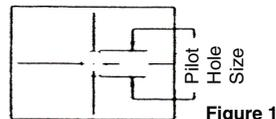

Figure 1
1. Lay out the pilot hole location with centerline axes. (See Figure 1)